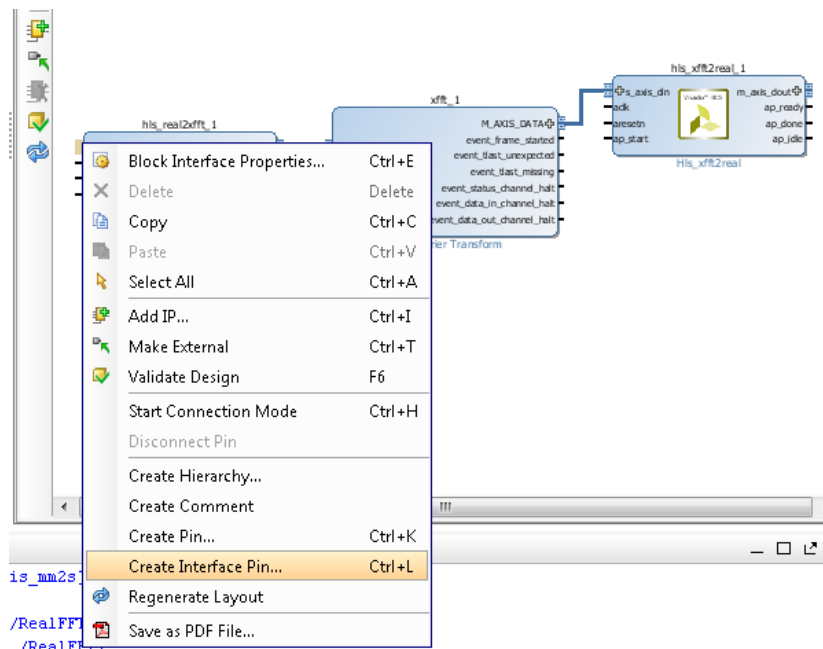

Figure 250: Creating an Interface Pin
11. Right-click the s_axis_din pin of the hls_real2xfft_1 block and select **Create Interface Pin** from the context menu (Figure 250).